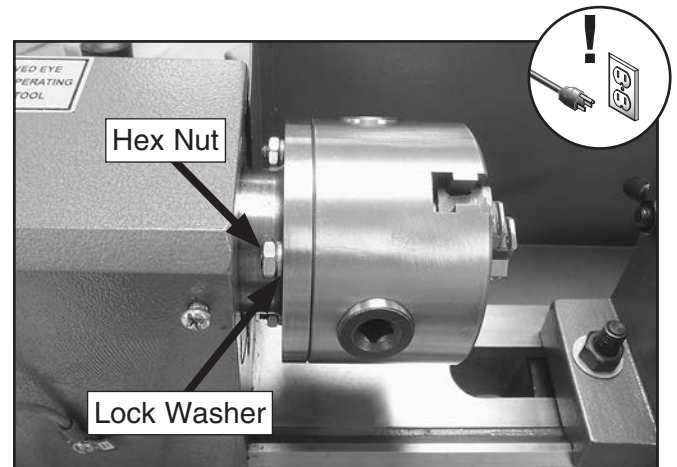

Figure 21. Chuck secured against backplate.
5. Use a lock washer and hex nut on each chuck screw to secure chuck (see **Figure 21**).